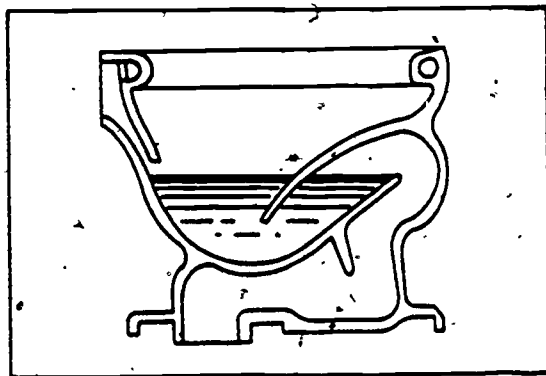

Figure 2-29. Common washdown closet bowl.
a. **Washdown bowl.** The washdown bowl, shown in figure 2-29, is the simplest type of water closet bowl. The trap is at the front of the bowl and is somewhat smaller than in other types, since the proper functioning of this bowl depends upon siphon action alone. During the flushing action of this water closet, the water flows from inside the rim down the side of the bowl through the integral trap and out of the fixture.